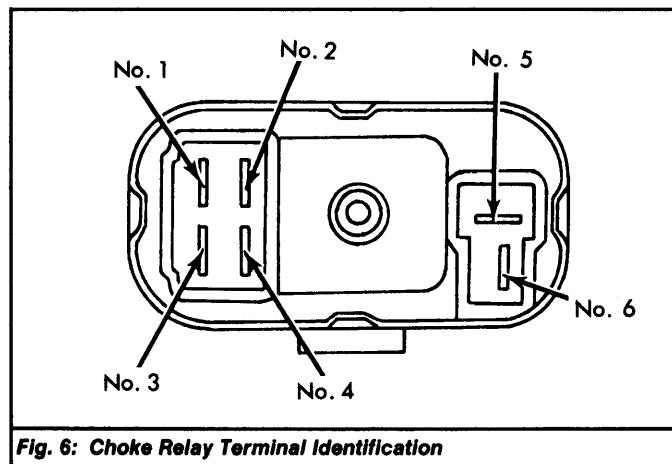

Fig. 6: Choke Relay Terminal Identification
2) Using jumper wires, connect battery positive terminal to choke relay terminal No. 6 and battery negative terminal to terminal No. 5. See Fig. 6.